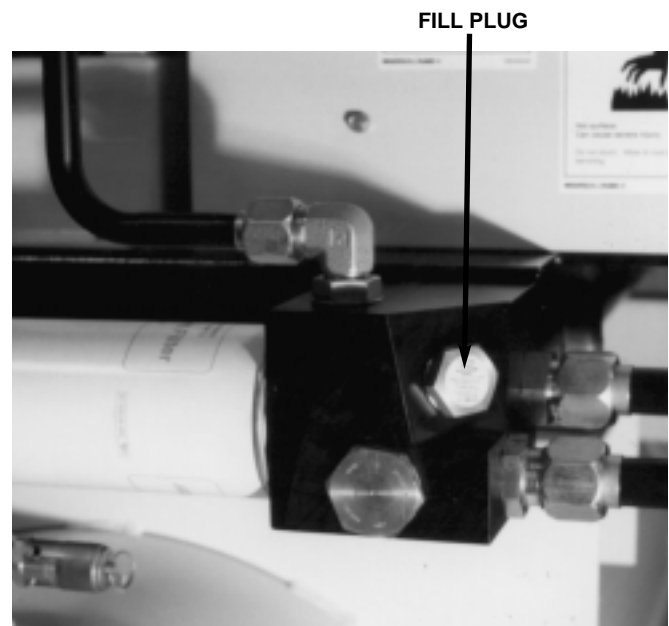

FIGURE 4.10-1 FILL PLUG
8. Remove coolant fill plug (See Figure 4.10-1).
10. Remove coolant fill plug (See Figure 4.10-1).
11. Remove coolant fill plug (See Figure 4.10-1).